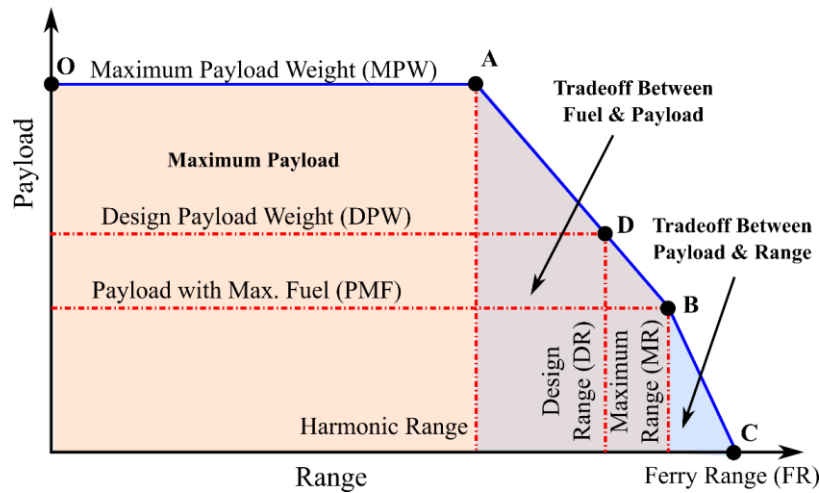

Figure 4A. Payload-range diagram
- 4C. Using the above data, find the value of the payload weight and range at the points A, B, and D shown in Figure 4A.
(03) C04 L04
- 5A. The following data are given for a Boeing 747: Takeoff weight (W) = 3260 kN; Wing surface area (S) = 510 m²; Zero-lift drag coefficient (C_{D_0}) = 0.036 (take-off configuration); Aspect Ratio (AR) = 6.7; Oswald efficiency factor (e) = 0.7; Maximum lift coefficient ($C_{L_{max}}$) = 1.8; Lift coefficient during ground run (C_{L_g}) = 0.7; Lift-off speed (V_{LO}) = 1.2* V_{stall} ; Maximum thrust for one engine (T) = 165 kN; Number of engines = 4; Altitude = Sea-level condition. The take-off consists of a ground run and an airborne phase. This